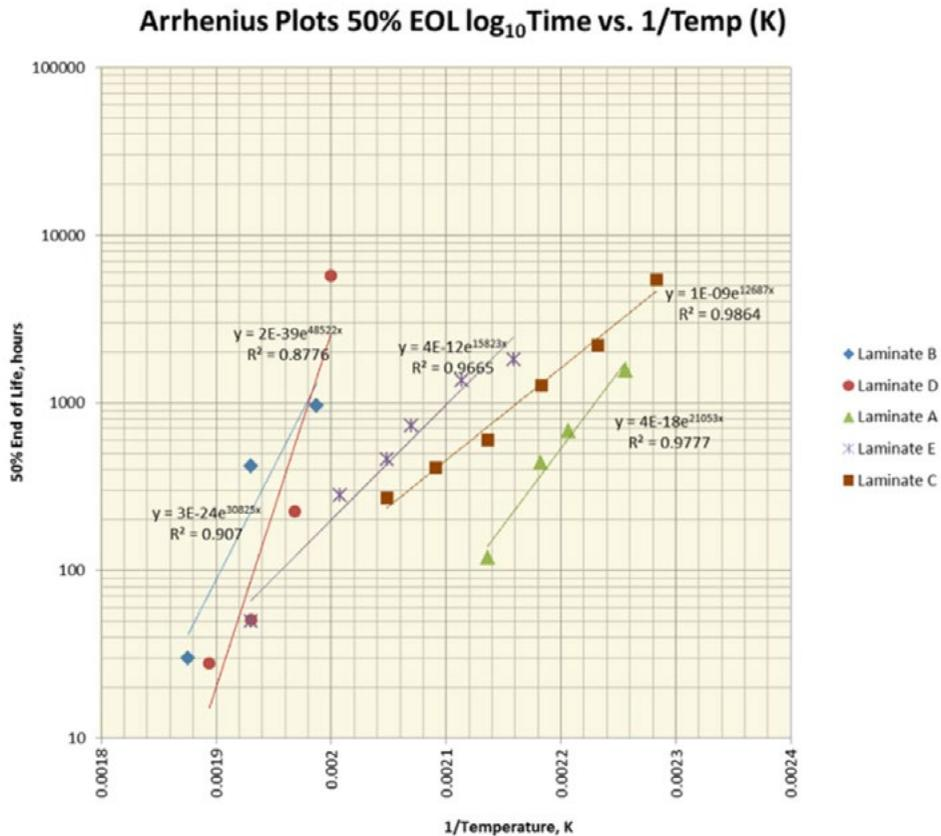

Figure 11: Arrhenius Plots of 50% log₁₀ Time (hours) vs. 1/Temperature (K).
Using the 1000 hour test data and +25,000-hour test data from T3, T4, and T5, an Arrhenius plot of 50% EOL (hours) vs. 1/Temperature (K) was generated for each laminate in Figure 11. Data is still being collected for T1 and T2